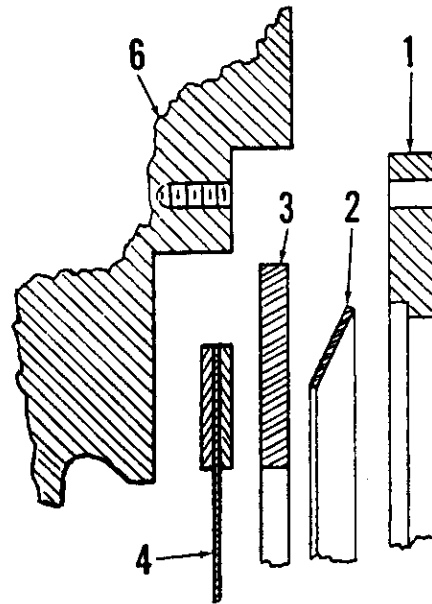

Fig. 253—Cross-sectional view showing placement of Belleville spring washer (2). Flywheel is (6); refer to Fig. 252 for parts identification.
Fig. 252—Exploded view of typical torque limiting clutch assembly. Refer to Fig. 253 for cross-sectional view showing proper installation of the Belleville (spring) washer (2).
When reassembling, be sure that the concave side of the Belleville washer (2) is towards the clutch cover (1) as shown in Fig. 253. The clutch disc is piloted in the flywheel, thus no aligning pilot is required. Tighten the clutch cover retaining cap screws to a torque of 25-30 Ft.-Lbs.